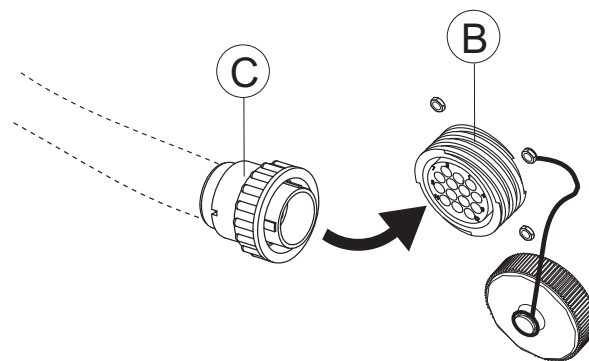

Figure 17 Detail of electrical connection
- connect the rack handling system connector "C" (Figure 17) to connector "B" of the dishwasher.